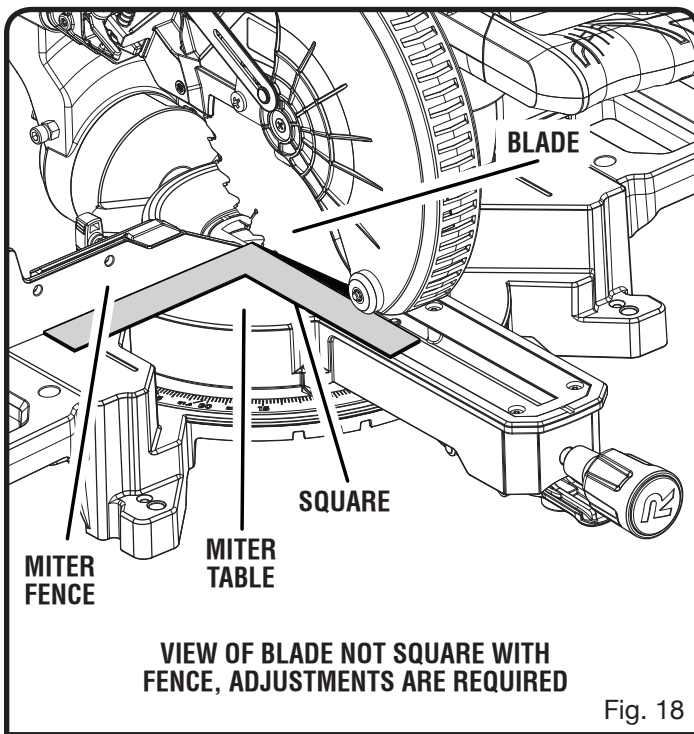

Fig. 18
- If the front or back edge of the saw blade angles away from the square as shown in figures 18 - 19, adjustments are needed.